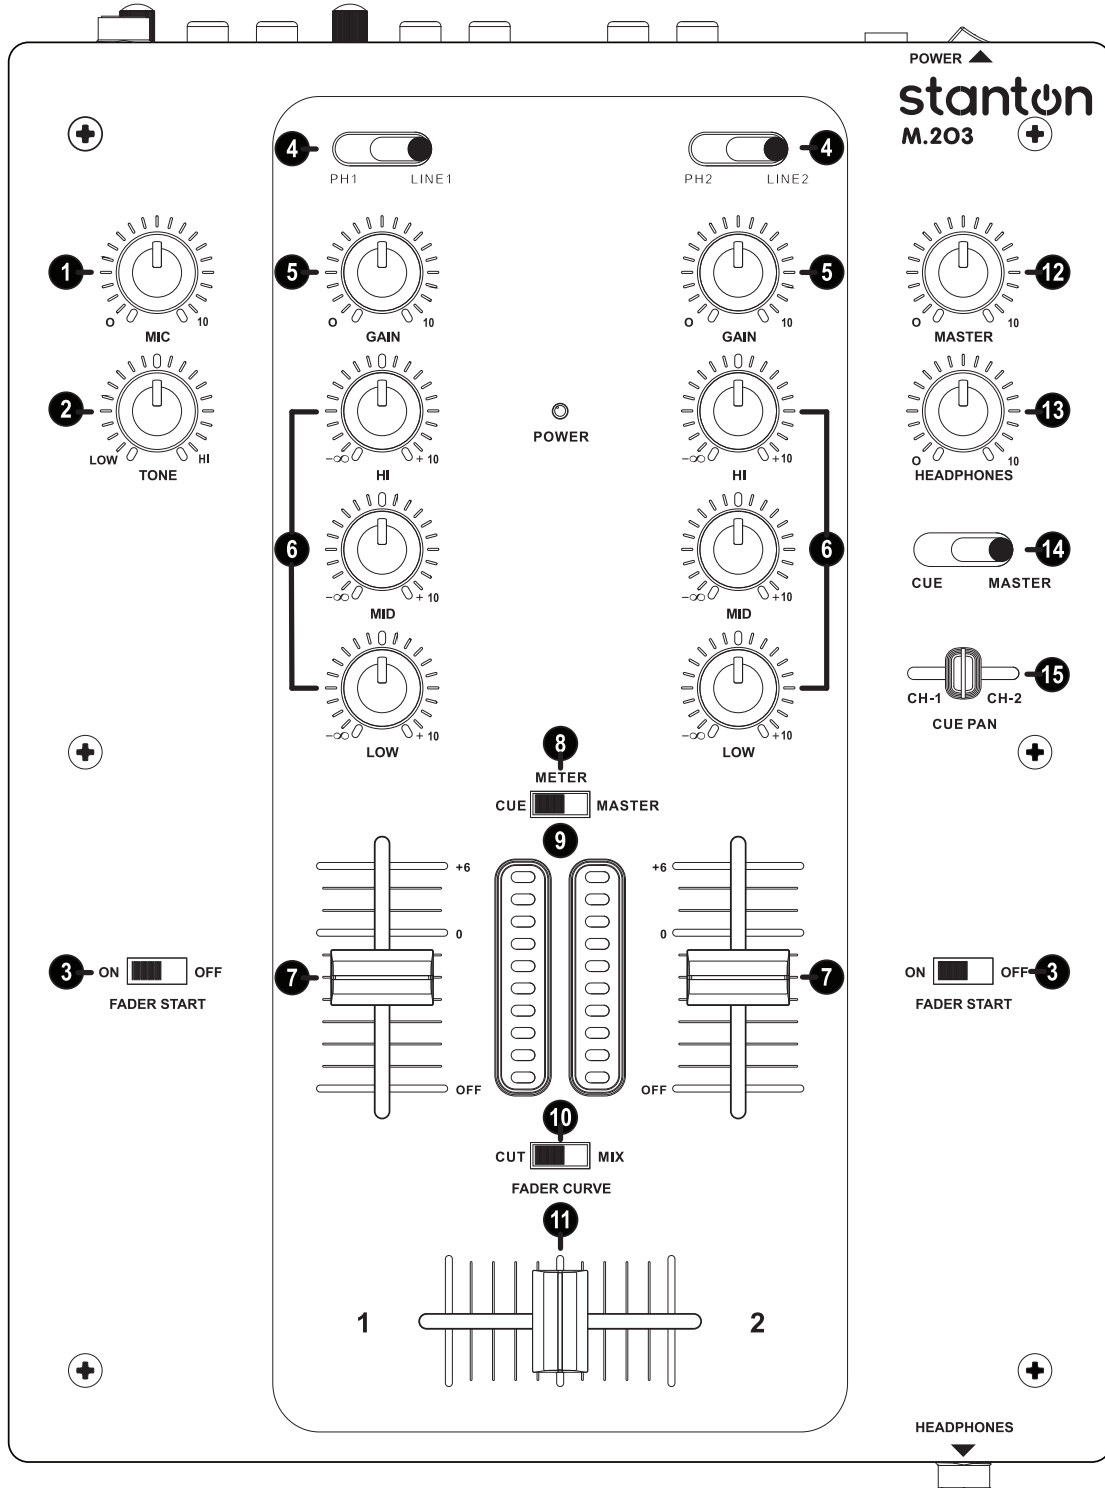

Figure 3.1
3.1 Top Panel (Figure 3.1)
9. **Fader Start:** To use this function you need a CD player with the Fader Start feature and its related cable so you can use the Crossfader to start and stop the CD player. The Fader Start switch (Front Panel, Figure 3.1, 3) activates the Fader Start feature. When the Fader Start switch is in the ON position, this function allows the fader to activate or return to the preset Cue Point on your compatible CD Player.